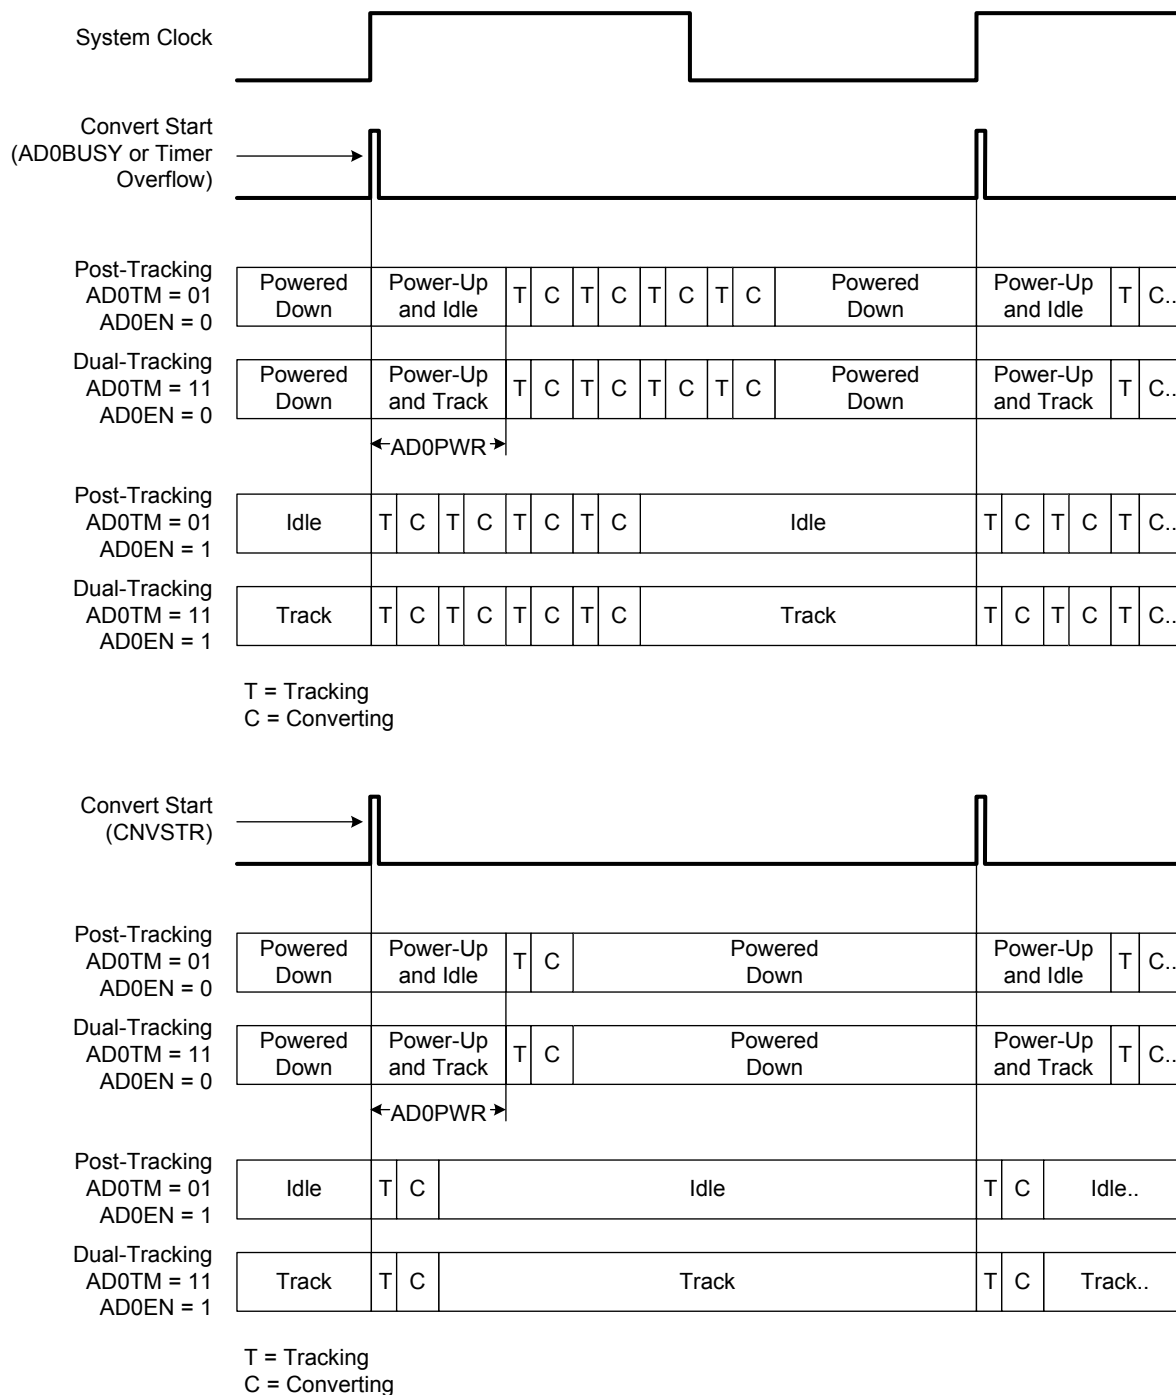

Figure 5.3. Burst Mode Tracking Example with Repeat Count Set to 4
Burst Mode is enabled by setting BURSTEN to logic 1. When in Burst Mode, AD0EN controls the ADC0 idle power state (i.e., the state ADC0 enters when not tracking or performing conversions). If AD0EN is set to logic 0, ADC0 is powered down after each burst. If AD0EN is set to logic 1, ADC0 remains enabled after each burst. On each convert start signal, ADC0 is awakened from its Idle Power State. If ADC0 is powered down, it will automatically power up and wait the programmable Power-Up Time controlled by the AD0PWR bits. Otherwise, ADC0 will start tracking and converting immediately. Figure 5.3 shows an example of Burst Mode Operation with a slow system clock and a repeat count of 4.
- A rising edge of external start-of-conversion (CNVSTR) will cause only one ADC conversion in Burst Mode, regardless of the value of the Repeat Count field. The end-of-conversion interrupt will occur after the number of conversions specified in Repeat Count have completed. In other words, if Repeat Count is set to 4, four pulses on CNVSTR will cause an ADC end-of-conversion interrupt. Refer to the bottom portion of Figure 5.3, “Burst Mode Tracking Example with Repeat Count Set to 4,” on page 85 for an example.